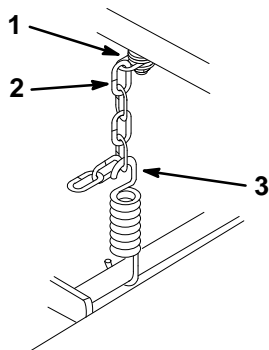

Figure 40
2. Hook spring into recommended link (Fig. 40).